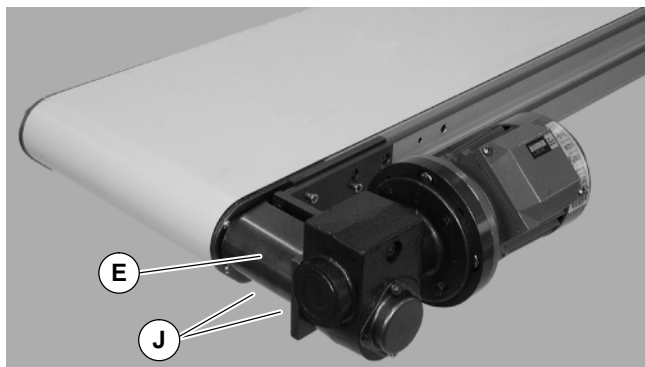

Figure 9
7. Reinstall coupling guard (E of Figure 9) with screws (J).
1. Remove screws (J of Figure 9) and coupling guard (E).